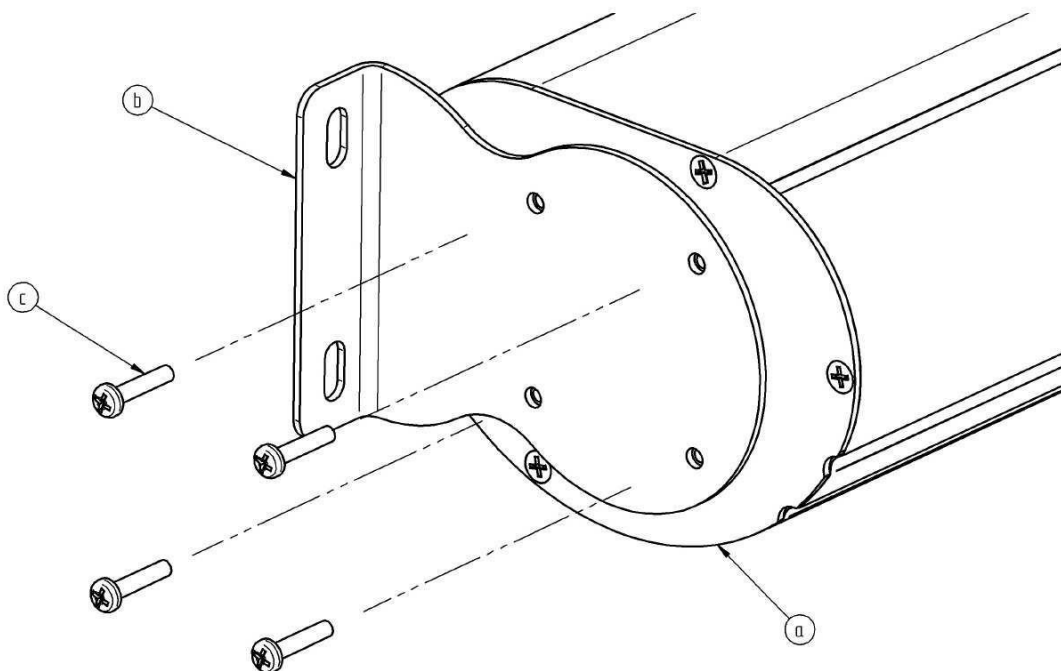
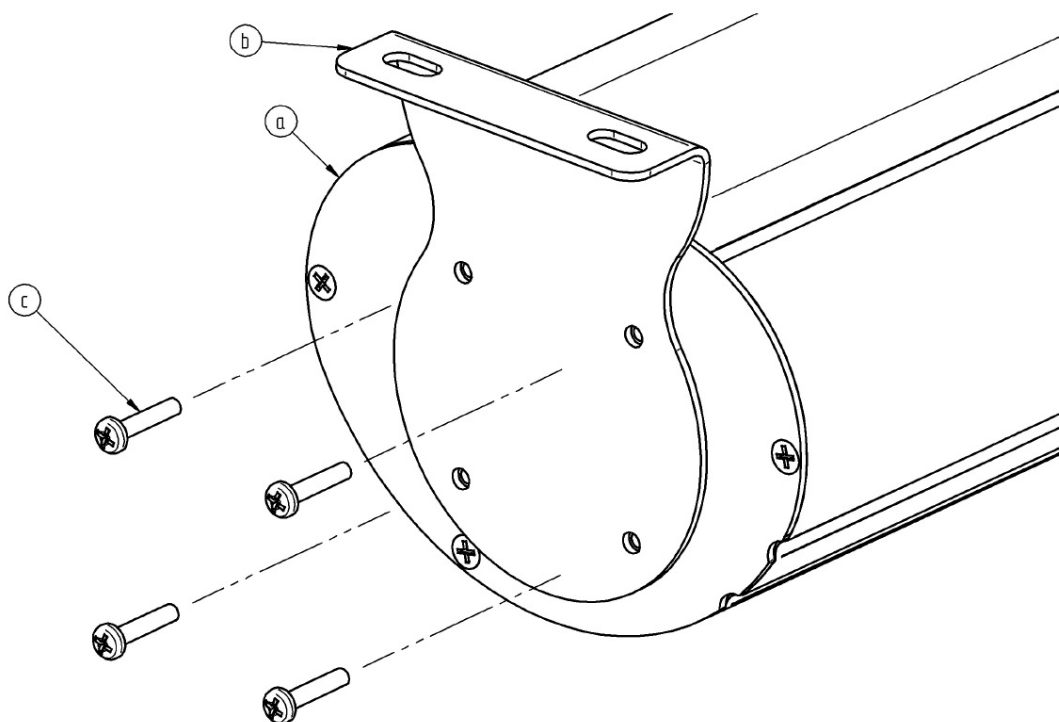

Fig.1a
Fig.1b
1. Using the screws (c), attach mounting brackets to the sides of the screen (a) depending on the mounting method (b) in the wall position (fig. 1a) or ceiling one (fig.1b)